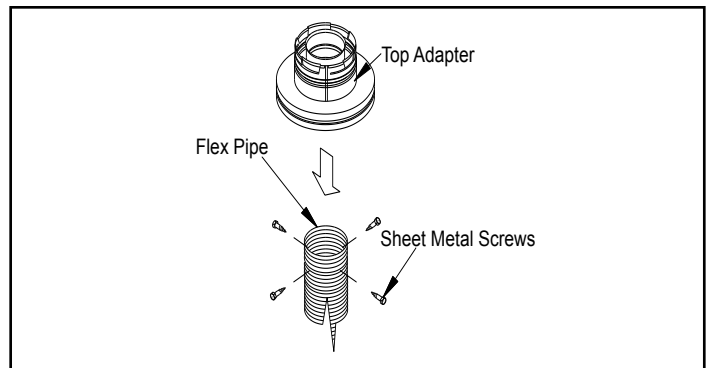

Figure 4.21
3. Connect the end of the flex pipe section to the underside of the top adapter, using four sheet metal screws. See Figure 4.21.
5. Connect the flex liner to the top adapter using three sheet metal screws. See Figure 4.21.